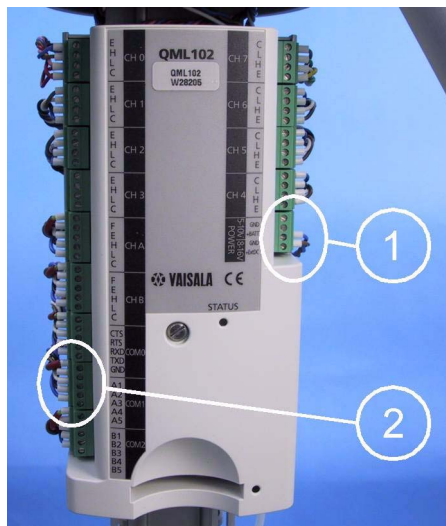

Figure 161 Wire Modifications with Radio Modem
3. Disconnect the wires **Red** and **Brown** from the **MOD1** connector (number 2 in Figure 161 on page 218). Connect the **Red** wire to **GND** and the **Brown** wire to **+ExtDC** terminal of the **Power** connector (1).